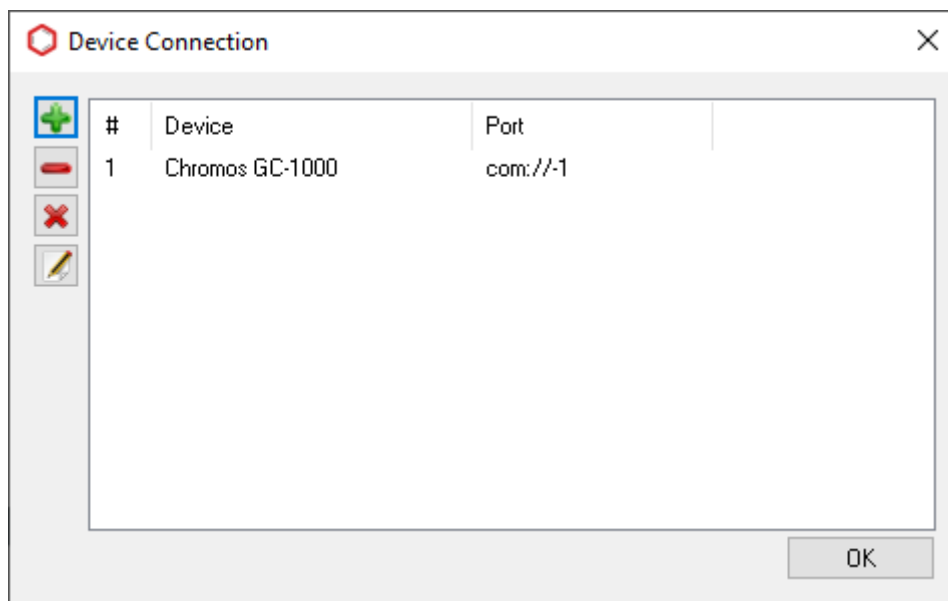

Fig. 105: Device Connection
5. In Chromos SW, in the *Devices* menu, select *Connection...*. The *Device Connection* window opens (Fig. 105):